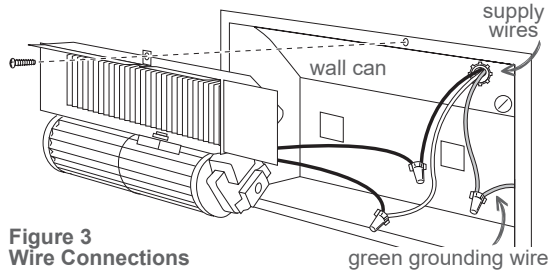

Figure 3
1. Connect supply ground wire to green grounding wire in wall can (See Figure 3).
- A. for 240 volts, it doesn't matter which heater wire (Figure 3);
- B. for 120 volts, connect the neutral (white) supply wire to the white heater wire (Figure 3).
3. Connect the remaining supply wire to the remaining heater wire with a wire connector (not included) (See Figure 3).
4. Insert the bottom edge of the heater assembly into the bottom of the wall can (See Figure 3).